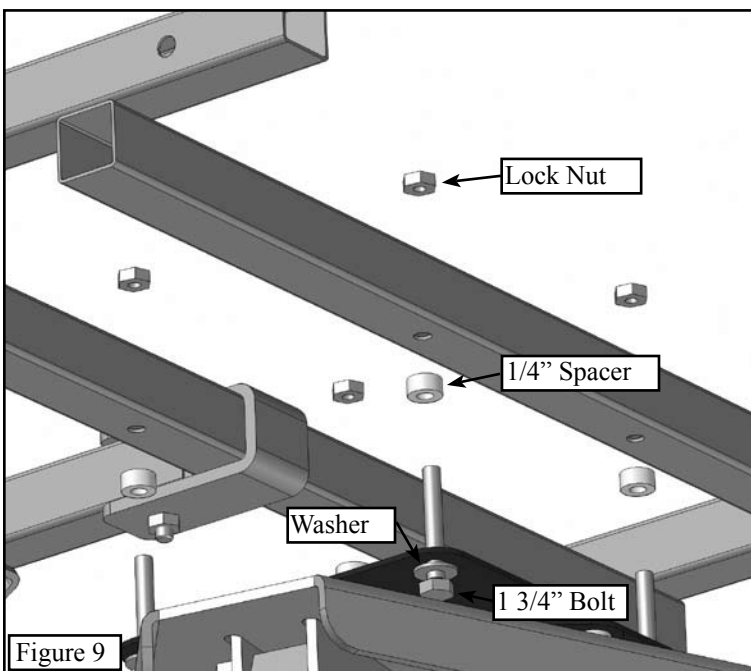

Figure 9
**Step 4.** Bolt the Seat Base to the Seat Swivel as shown in **Figure 9**. The correct order should be: 1 3/4" bolt / Washer / Seat Swivel / 1/4" spacer / Seat Base / Lock Nut. Pivot the swivel to insert the next bolt.